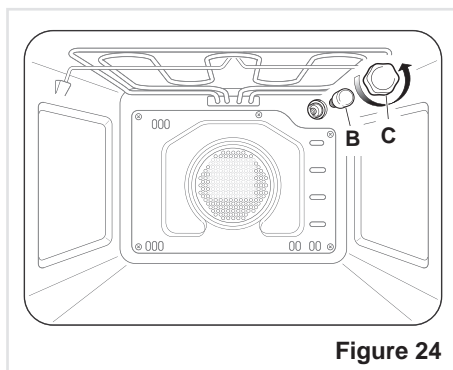

Figure 24
- Unscrew the protective cover “C” (fig. 24).